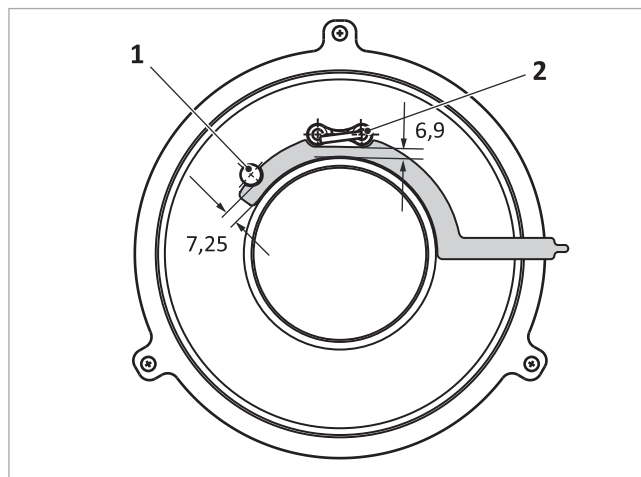

Fig. 135: Clearance from ionisation electrode and ignition electrode to burner tile
- Ionisation electrode → Fig. 135 (1): 7.25 mm
- Ignition electrode → Fig. 135 (2): 6.9 mm